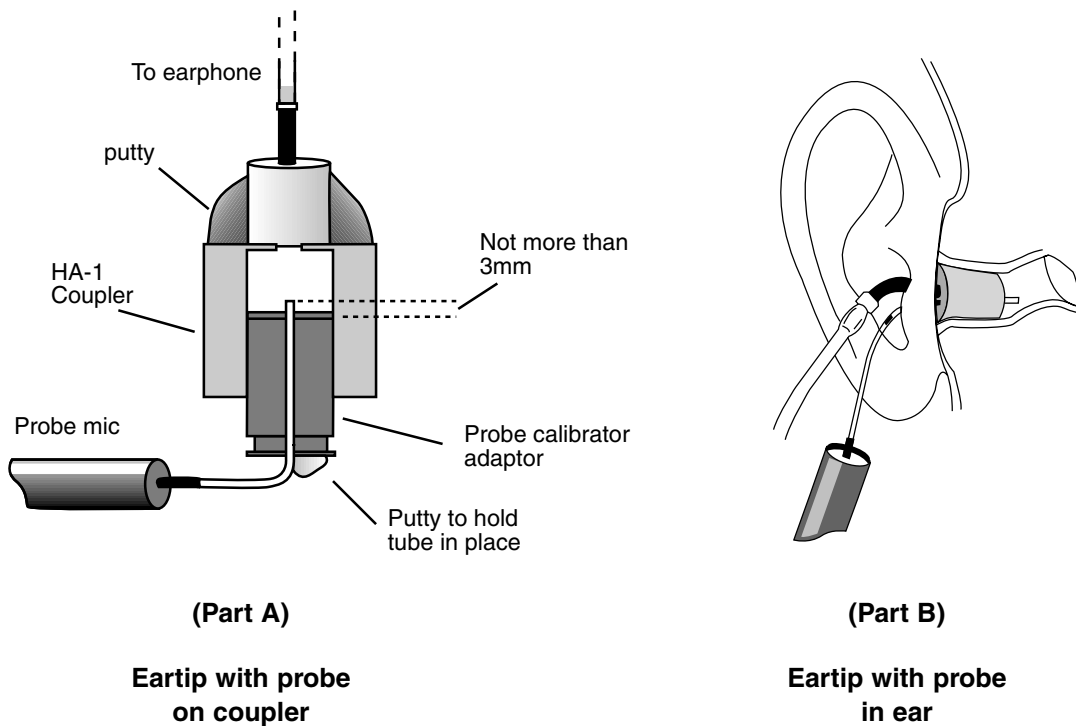

Figure 8.5.5.1A
2. Thread a probe tube through the probe microphone adapter as shown in Figure 8.5.5.1A. Begin threading the tube from the notched end of the adapter. The tip of the probe tube should extend between 0 and 3 mm beyond the hole at the welled end of the adapter.